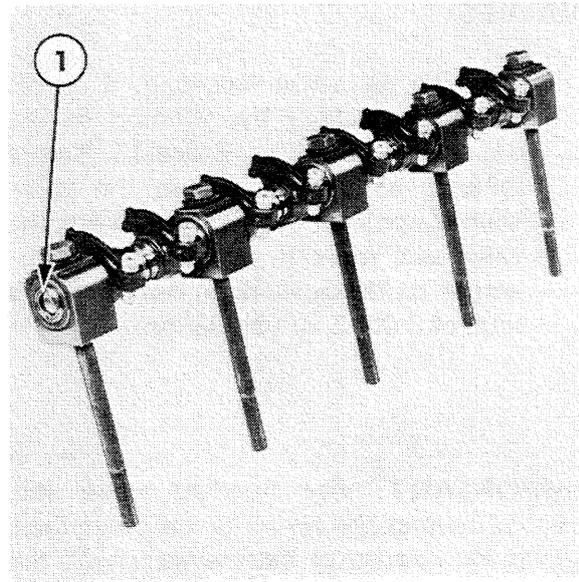

Figure 16
4. Coat all components with engine oil and position the notch on the front of the rocker shaft upwards to correctly locate the oil holes, Figure 16.